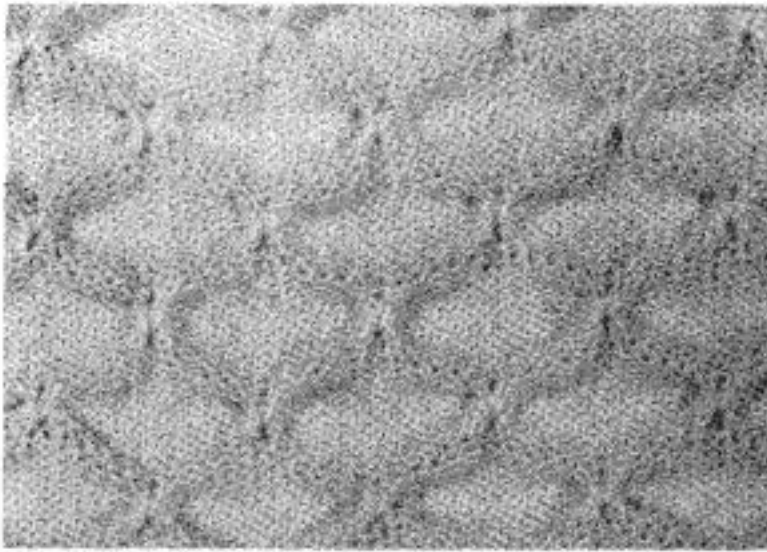
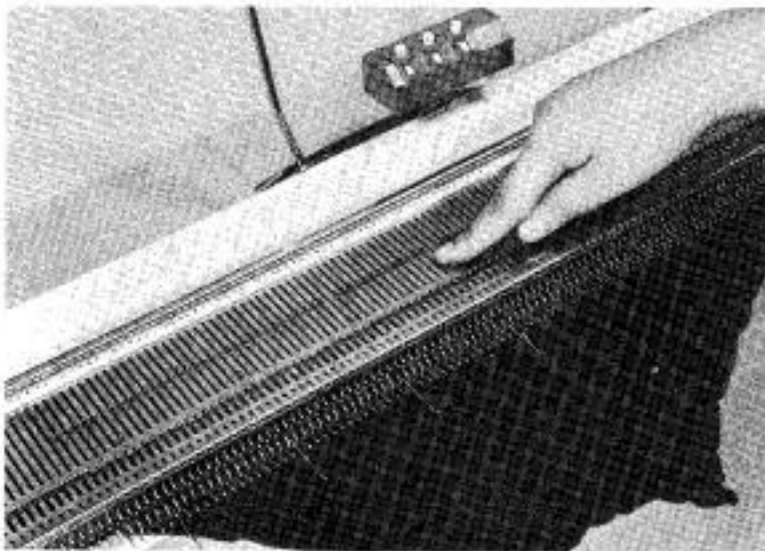

Fig. 110
Fig. 112
As in the case of Colour Pattern work if the Tucking Pattern repeats at intervals of 13 or more stitches (Figs. 110 & 111) the following manual method is employed.
- (2) The number of needles required for Tucking (Holding) should be brought forward into Position (E) (Holding Position), — Figs. 112 & 113. Knit the number of rows required by the pattern with the selected needles remaining in the Holding Position. In the pattern illustrated at Fig. 110, every 14th needle is in Position (E) and 10 rows are knitted with these needles remaining in the Holding Position.
- (3) Before knitting the 11th row of the pattern illustrated at Fig. 110 the Return Cam Levers are pulled FORWARD into Position '2' so that the holding needles will knit along with the rest. At the end of the 11th row the Return Cam Levers must be pushed BACK into Position '1'.
After 2 rows of knitting over all the needles another sequence of single needles is brought forward into Position (E) and the procedure is repeated. (Figs. 112 & 113)